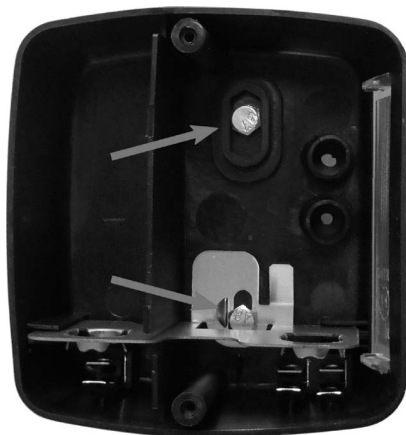

Figure 2: Fixing screws
Now attach the tail light to the trailer. To do so, insert the supplied screws into the mounting holes (item 7 in the overview) from the inside out on the housing, see Figure 2, then through the holes that were drilled. Put the nuts on, then tighten them.